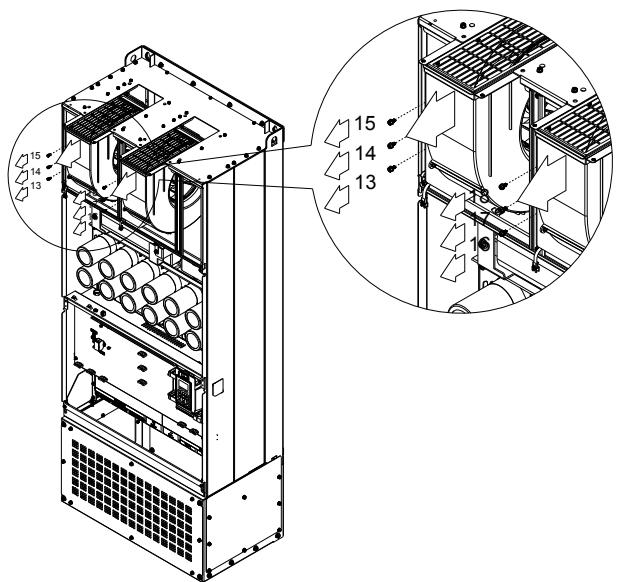

Figure 4
(4) Loosen the screw and remove the fan. Make sure fan power is properly disconnected before removal. Screw torque: 24~26kg·cm (20.8~22.6lb-in). (figure 4)